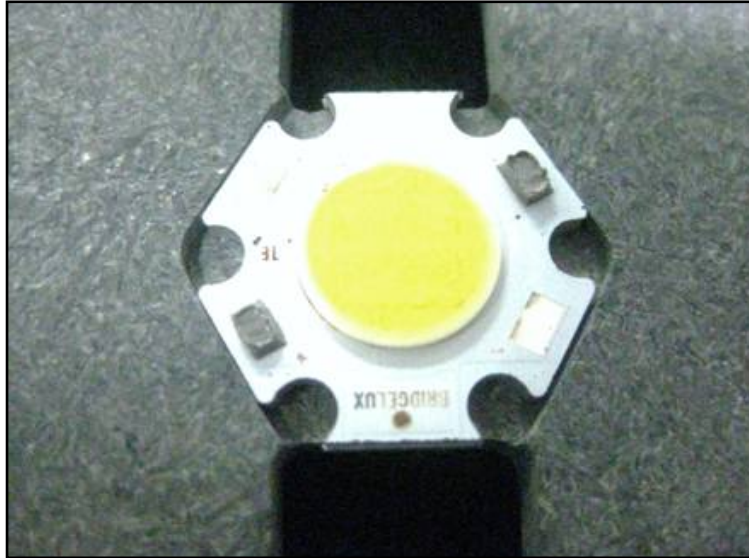

Figure 7a: Star LED Array with solder paste
5. The LED Arrays with solder paste (Figures 7a and 7b) may then be transferred from the solder stencil alignment plate to the solder reflow fixture.
Once the solder paste is deposited, the solder stencil is removed by lifting it from the solder stencil alignment plate. This exposes the LED Arrays with solder paste deposited onto the solder pads, as shown in Figures 7a and 7b. Excess solder paste can be removed from the solder stencil using IPA and a lint-free wipe.